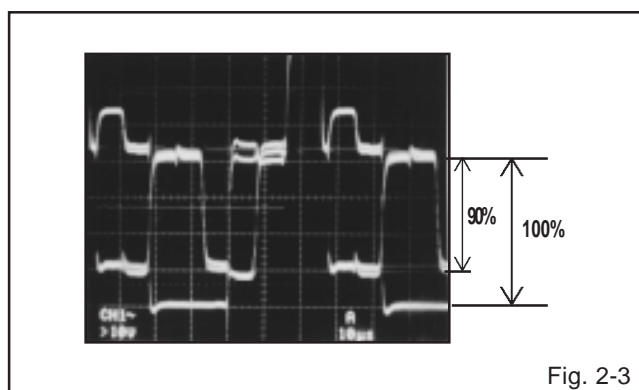

Fig. 2-3
6. Press the VOL. UP/DOWN button on the remote control until the red color level is adjusted to 90±5% of the white level. (**Refer to Fig. 2-3**)